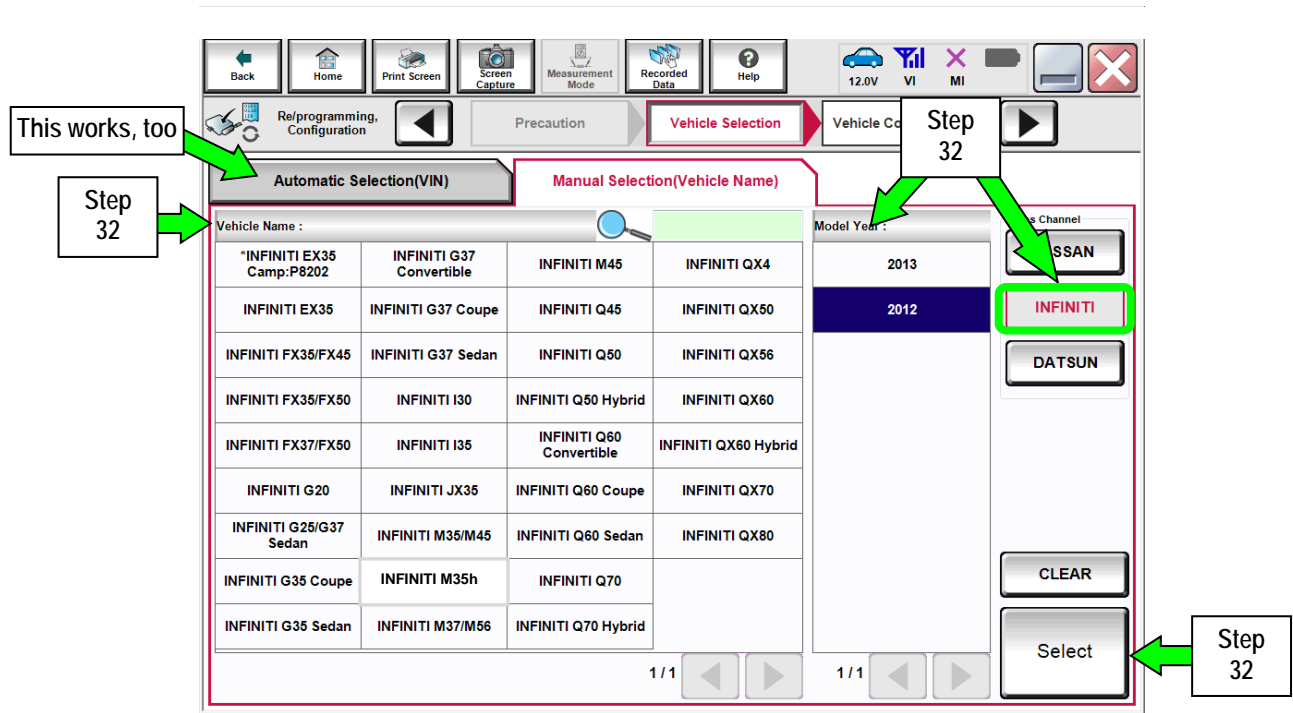

Figure 18
- If the screen in Figure 18 does not display, skip to step 33.